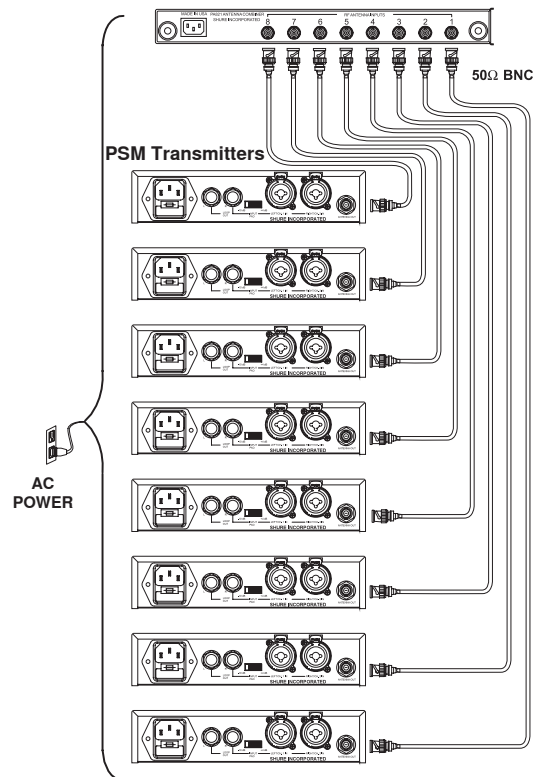

FIGURE 2
1. Using the supplied BNC-BNC cables, connect the **Antenna Output** of each transmitter to the **ANTENNA INPUTS** of the PA821A (Figure 2).